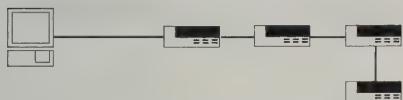

Fig. 1
Fig. 3. Shows FFT analysis of the data in fig. 1. This graph reveals frequency modulation due to insufficient regulation of the 50 Hz power supply. The main interference source is detected and corrective actions may be taken to improve design.
**Set up your NetDAQ system the way you want it.** You can set up your NetDAQ system in several different ways. Configure a dedicated system, daisy-chaining as many as 20 NetDAQ units to your PC with a high-speed communication line. This is a quick, simple way to send real time data directly to a PC (see fig. 1).